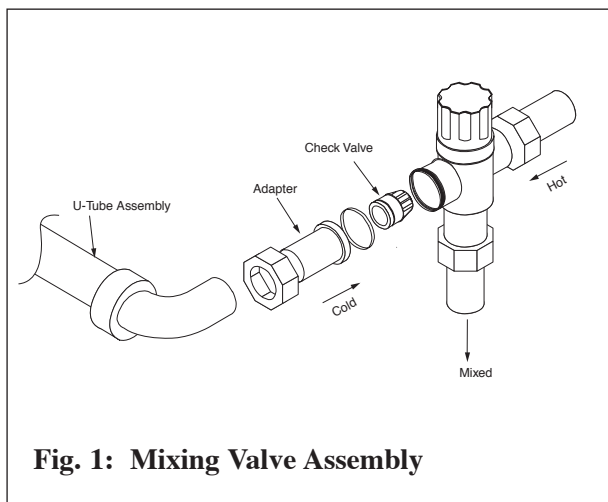

Fig. 1: Mixing Valve Assembly
3. Solder the U-Tube Assembly onto the adapter. (See Fig. 1)